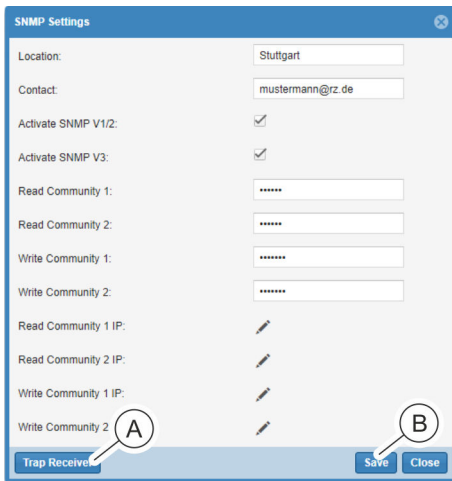

Fig. 138: “SNMP Settings” window
2. In the “SNMP Settings” window, click the “Trap Receiver” button (Fig. 138/A).